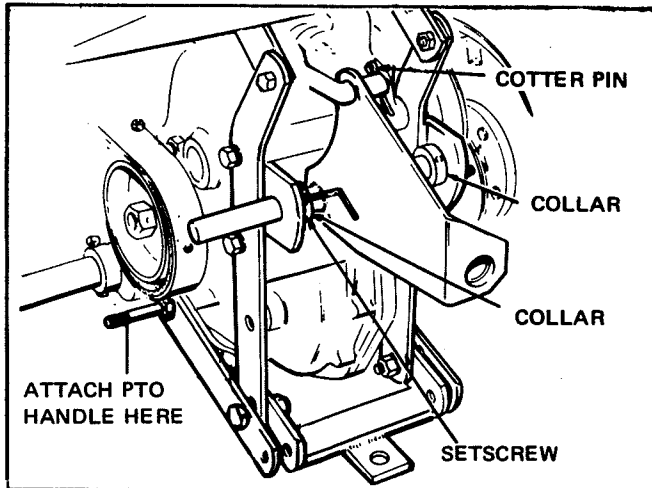

Figure 3
3. Insert right end of lift assembly into hole in right hitch member and position lift assembly so that collar is flush against right hitch member. Position collar on left side of lift assembly so it is flush against left hitch member. Tighten socket head set-screw with Allen wrench. See Figure 3.
4. Connect lift assembly to rear lift group. Secure with cotter pin. See Figure 3.